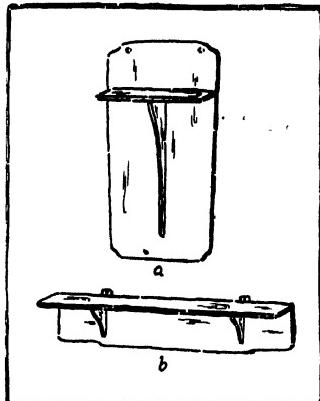

Fig. 276. Wall Brackets, Double-Hung:
*Wall Brackets.* (1) There are three essential parts, the shelf, the support or supports, and the back: the shelf to hold the articles, the support to hold up the shelf, and the back to hold all together, Fig. 276, *a*. The grain of the wood in the shelf should run left and right, not forward and back, because thus it rests on the support in such a way as not to break easily, and it also acts as a stiffener for the back. In case the back extends above the shelf, as in Fig. 276, *a*, the shelf can be secured firmly to the back, since there is side grain in which to drive nails or screws. As to the direction of the grain of the support and the back, this should run in the direction of the largest dimension of each. Where the back is long horizontally, for security in hanging, it is better to have two supports.\*